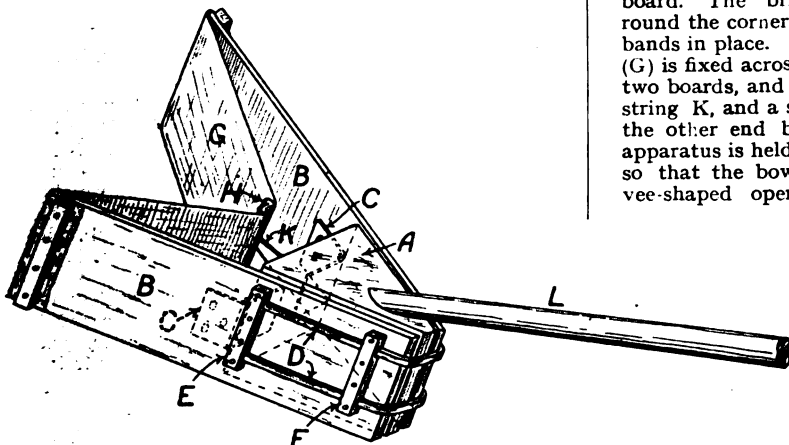

FIG. 4.—M. GIRARD'S DEVICE FOR STOPPING HIS BOAT.
One item of note, in which we think our readers will be interested was the use of a special stopping device by M. Girard for catching his boats at the end of the trip. This is illustrated in Fig. 4, and is constructed as follows: A wedge-shaped block of wood (A) is fitted at a convenient angle to the end of a light pole (L), the latter being about 6 or 7 ft. long. To the sides of the block A are hinged two light boards (B, B), the hinges being fixed as shown at CC, allowing the boards to close inwards. The movement of these boards is regulated by two stout rubber bands shown at D. These bands are of rubber about 3-16ths square, and are fixed by the cross strap E and a corresponding strap on the other board. The bridge piece F, and a similar piece round the corner, serve as guides to keep the rubber bands in place. A band of stout canvas webbing (G) is fixed across the front of the V formed by the two boards, and this is held in place by a piece of string K, and a short strip of wood H, the starting the other end being fixed to the block A. The apparatus is held down at the surface of the water, so that the bow of the incoming boat enters the vee-shaped opening, the hinged boards closing in